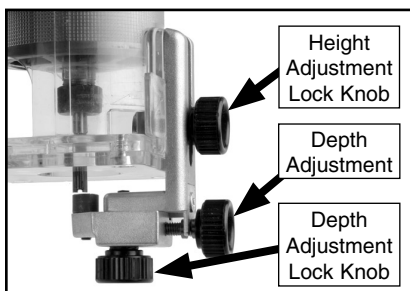

Figure 6. Curved trim guide adjustments.
1. Slide the trim guide onto the base plate as shown in **Figure 6**, set the guide height, and tighten the height adjustment lock knob.